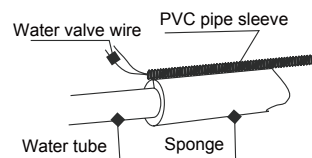

Fig.20
① The right way is letting the water valve wire go through the pipe sleeve and then binding the sponge and pipe sleeve up(as Fig.20).